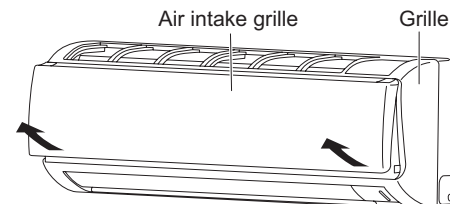

Fig. 2-199
- (1) Grasp both ends of the air intake grille, and remove it by opening towards the front and pulling towards you. (Fig. 2-199)